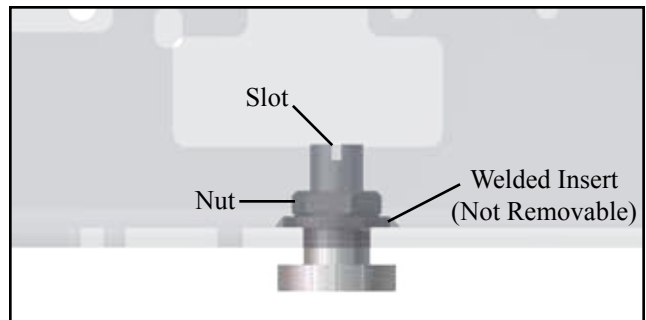

Figure 14 - Fastener Post (Side View)
The slotted fastener posts (Figures 14) extend both below and into the center of the Stat Trac to secure the Stat Trac to the ambulance floor. The depth of the fastener posts can be adjusted using a slotted screwdriver and 3/4" socket and socket wrench.
5. Using the screwdriver to hold the position of the fastener posts if needed, hand-tighten the nuts to the welded insert in the floor of the channel (Figure 14) to set the fastener posts at the correct height for your ambulance. (Note that the welded insert is not removable).